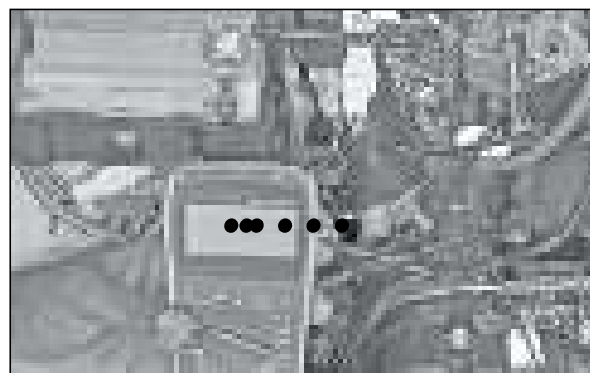

Fig. 5.66
- Connect pocket tester's '+ve' lead to the green white wire (GW) of gear position sensor and '-ve' lead to body earth. (Fig. 5.66)